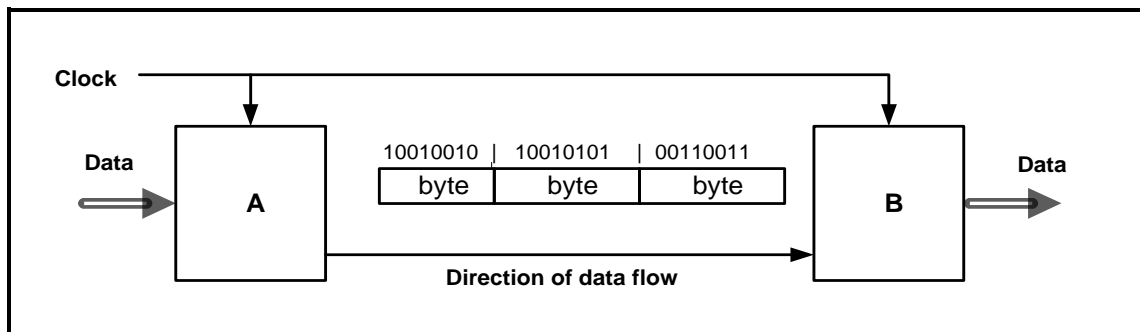

FIGURE 6.5: BLOCK DIAGRAM OF SERIAL DATA SYNCHRONOUS COMMUNICATION IN A MICROCONTROLLER
6.5 Refer to FIGURE 6.5 below and answer the questions that follow.
6.5.1 Label the following blocks in FIGURE 6.5:
6.5.2 Explain how data is transmitted from block **A** to block **B** in FIGURE 6.5. (6)